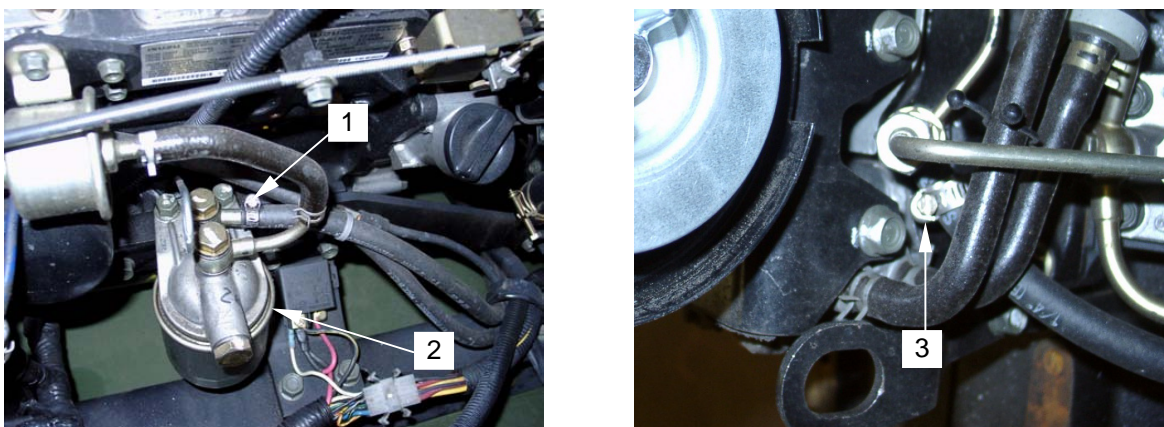

Figure 2. Disconnecting Fuel Supply and Return Hoses
3. Using pliers, loosen hose clamp of $\frac{5}{16}$ -inch fuel supply hose (**figure 2, item 1**) at the fuel filter (**figure 2, item 2**). Hold disconnected hose up momentarily to let any fuel drain back into tank.
4. Using pliers, loosen hose clamp of $\frac{1}{4}$ -inch fuel return hose (**figure 2, item 3**) at the engine block. Hold disconnected hose up momentarily to let any fuel drain back into tank.